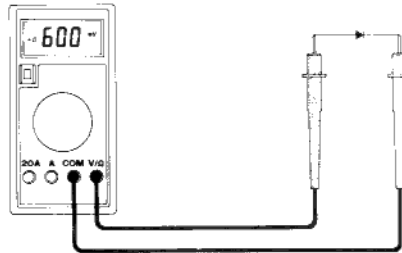

Fig. 5-7 Diode Measurement
2. Turn the Rotary switch to the  range and connect the test leads, Red test lead to "+" polarity and Black test lead to "-" polarity, across the diode under measurement. See Figure 5-7.